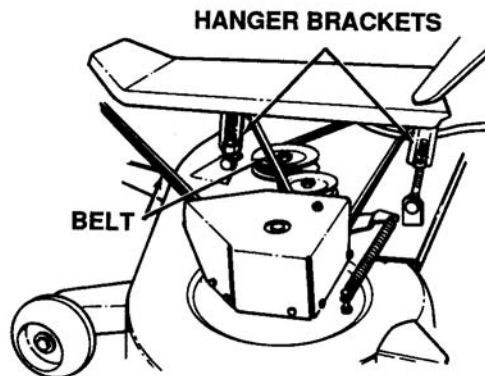

Figure 8-31. Attaching Hanger Brackets
7. Attach the four tractor hanger brackets to the deck as follows. The left front tractor hanger bracket goes through the center of the V-belt. See Figure 8-31. Attach the rear hanger brackets first, then the front, using four flat washers and hairpin clips.